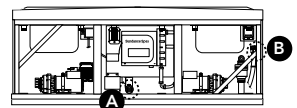

Figure 13.3c
4. Locate one of the two drains that you would like to use, Figure 13.3c.